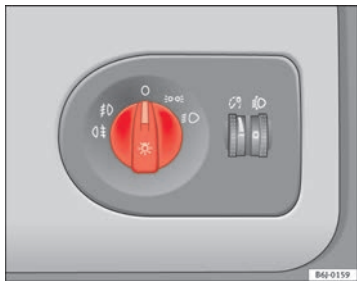

Fig. 50 Detailed view of the dash panel: lights, fog lights and rear fog light control
- Turn the light switch \Rightarrow fig. 50 to position 0.